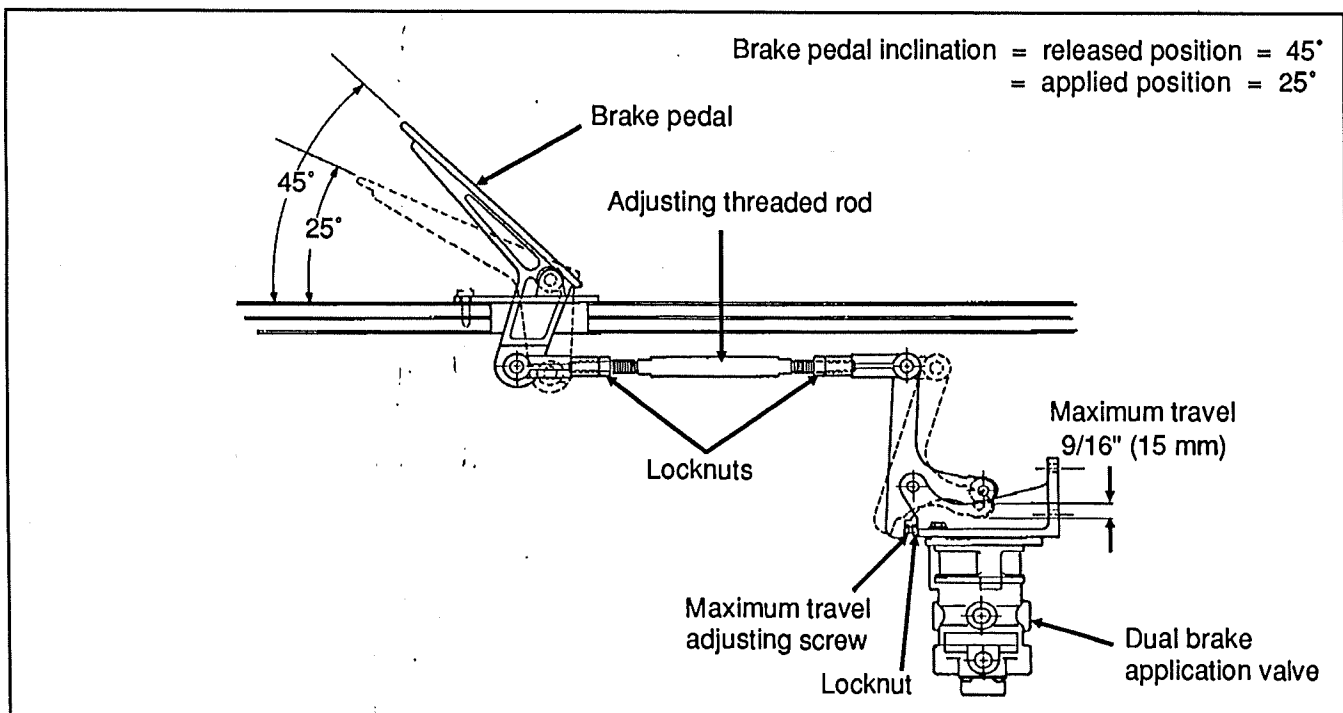

FIG. 2 - Brake pedal adjustment
1. Without the linkage between brake pedal and service brake valve (E-10), adjust according to the figure 2, the brake pedal maximum travel. When maximum travel ends, pedal resistance will increase abruptly.
2. If maximum travel is incorrect, unscrew the locknut at the bottom of valve pivot (refer to figure 2) and loosen or tighten the adjusting screw to obtain a maximum travel of 9/16" (15 mm), then tighten the locknut.
3. Replace the linkage, loosen threaded rod locknuts, and screw or unscrew the adjusting threaded rod in order to obtain a brake pedal inclination corresponding to 45° (refer to figure 2). Tighten threaded rod locknuts.